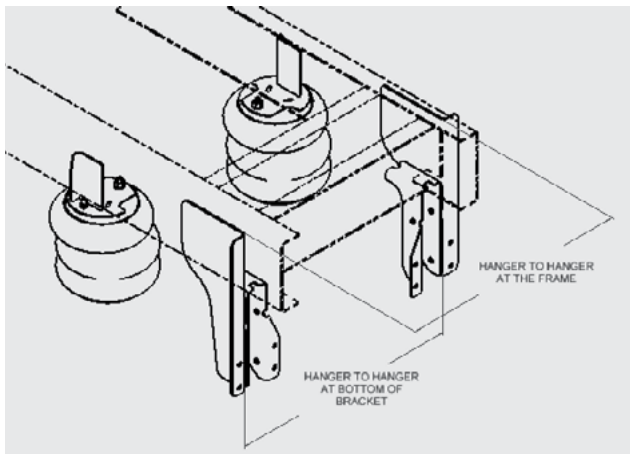

Figure 9. Hanger Positioning
- Verify that the measurements between the suspension hanger brackets (see Figure 9) at the frame and at the bottom of the brackets are within the allowable tolerance. Hangers must be parallel to one another vertically.